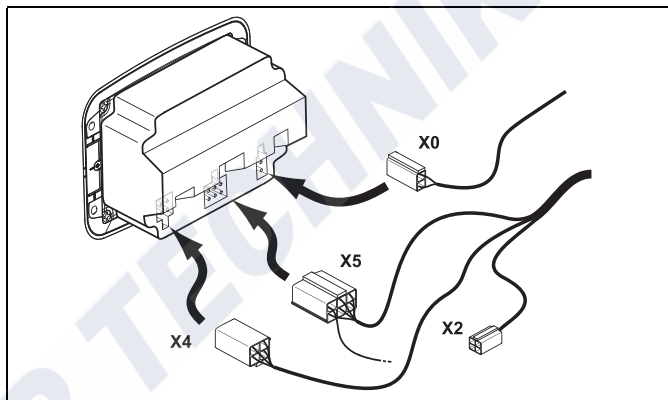

Fig. 53: Electrical connections of programmable heater control
- Connect plug X4 (4 poles) and X5 (6 poles) of the external wiring harness to the heater control (see Fig. 53).
- Connect plug X0 (2 poles) of the inside temperature sensor to the heater control (see Fig. 53).
- Optional: Connect plug X2 (4 poles) to receiver Telestart / Thermo Call (see Fig. 53).